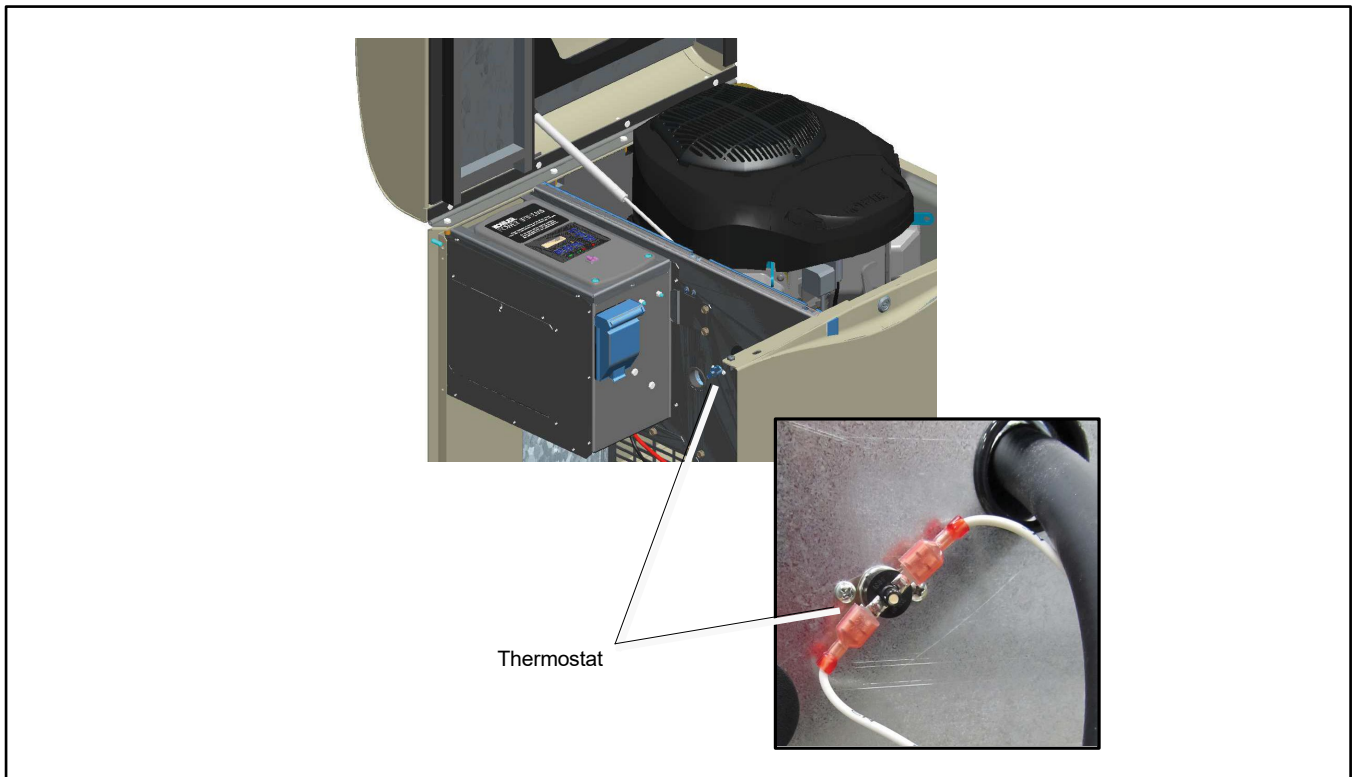

Figure 14 Thermostat Location
3. Press the button on the thermostat to reset it. See Figure 14 for the thermostat location.